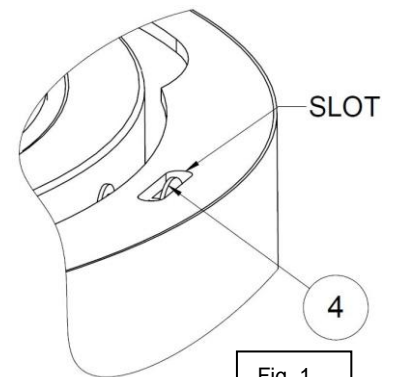

Fig. 1
- Install shade (3) by aligning three large openings with the shade support (4) then gently lift up and rotate it until the three small slots rested on top of the support as shown on Fig 1.